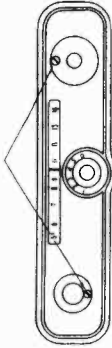

FIG. 6
7. Place escutcheon in position and secure in place with screws (see Fig. 6).